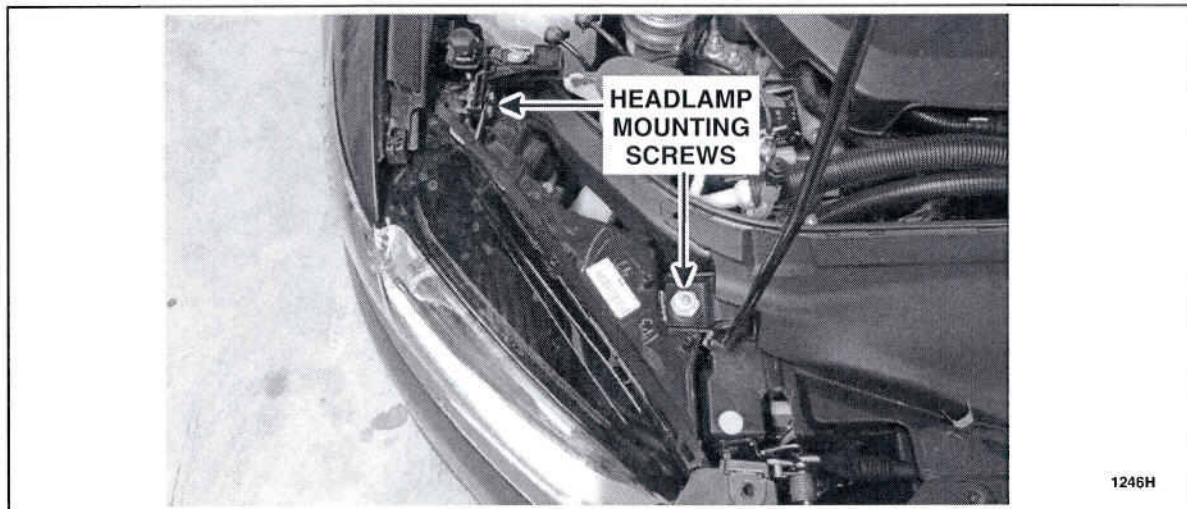

FIGURE 11
12. Remove the three mounting screws from the RH and LH headlamp assemblies. See Figure 11.
- d. Loosely install the three RH and LH headlamp assembly mounting screws. See Figure 11.
- c. Tighten the headlamp mounting screws to 3.6 Nm (32 lb-in). See Figure 11.